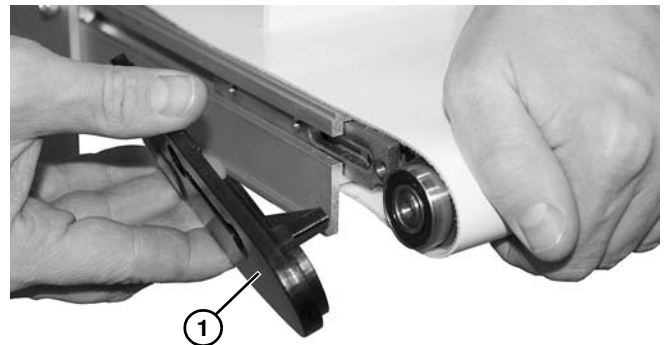

Figure 63
3. Remove the headplate (**Figure 63, item 1**) from the conveyor frame, holding spindle in place.